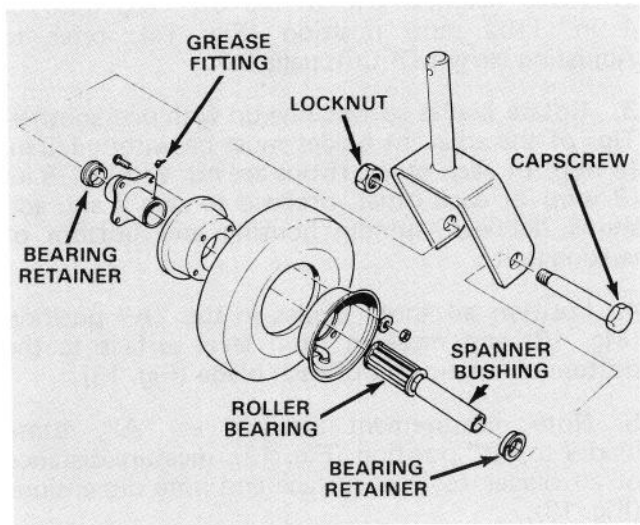

Figure 8
1. Remove locknut from capscrew holding castor wheel assembly between castor fork (Fig. 8). Grasp castor wheel and slide capscrew out of fork.
**Note:** Account for the two bearing retainers (Fig. 8).
2. Tip wheel to the side and allow roller bearing and spanner bushing to fall out (Fig. 8).
6. Pump more grease through grease fitting on wheel (Fig. 8) until bearing is greased thoroughly.